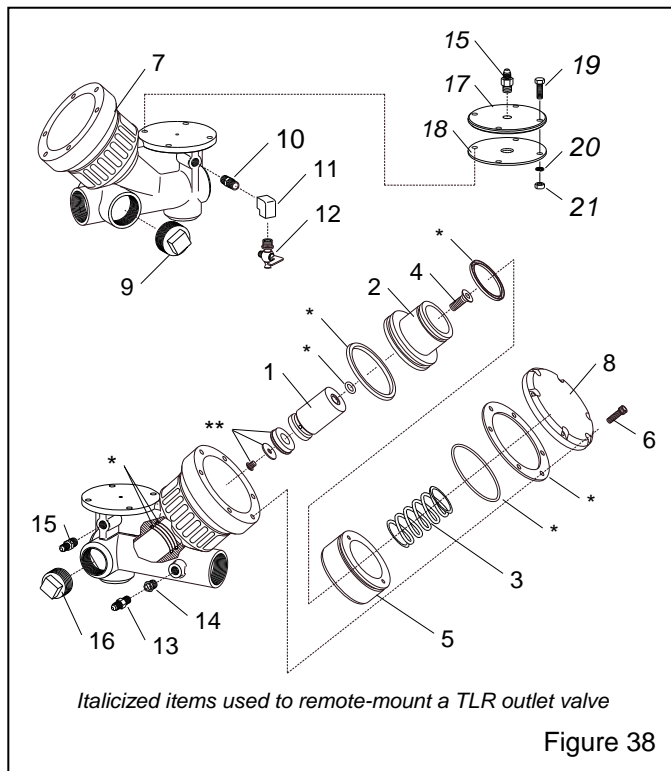

Figure 38
8.6 Millennium Valve, Inlet Segment, Figure 38